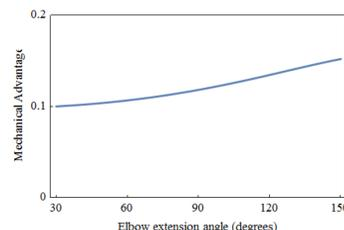

Fig 3 The simple lever model predicts that mechanical advantage increases during curl.
1. What does this model suggest about the required force as the forearm is raised? Interpret Fig. 3, a plot of mechanical advantage ($MA = F_{hand}/F_{biceps}$) for the simple lever mode
3. On Fig 3, use the value at 90° as a reference and sketch the relationship you expect for mechanical advantage above or below 90° for a natural curling motion